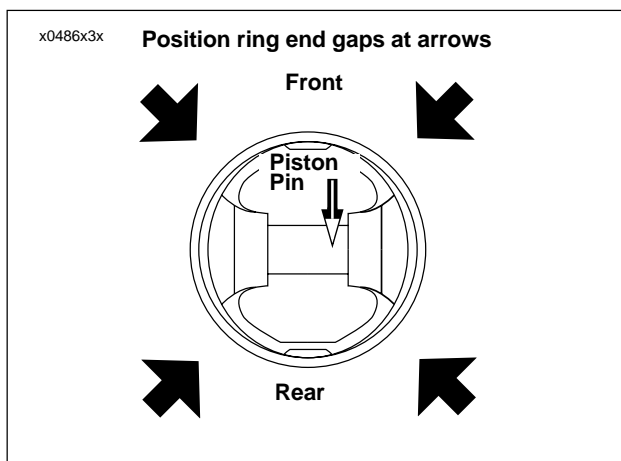

Figure 3-78. Ring End Gap Position
- See Figure 3-78. Install rings so end gaps of adjacent rings are a minimum of 90° apart. Ring gaps are not to be within 10° of the thrust face centerline.